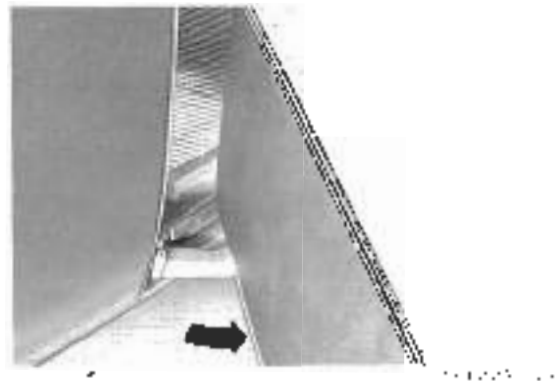

Fig. 5-37. Door being swung outward (shown) so that the lower rollers can be unhooked from the bottom runner.
3. Swing the door slightly outward and pull the lower rollers out of the break in the bottom runner (Fig. 5-37) and remove the door.